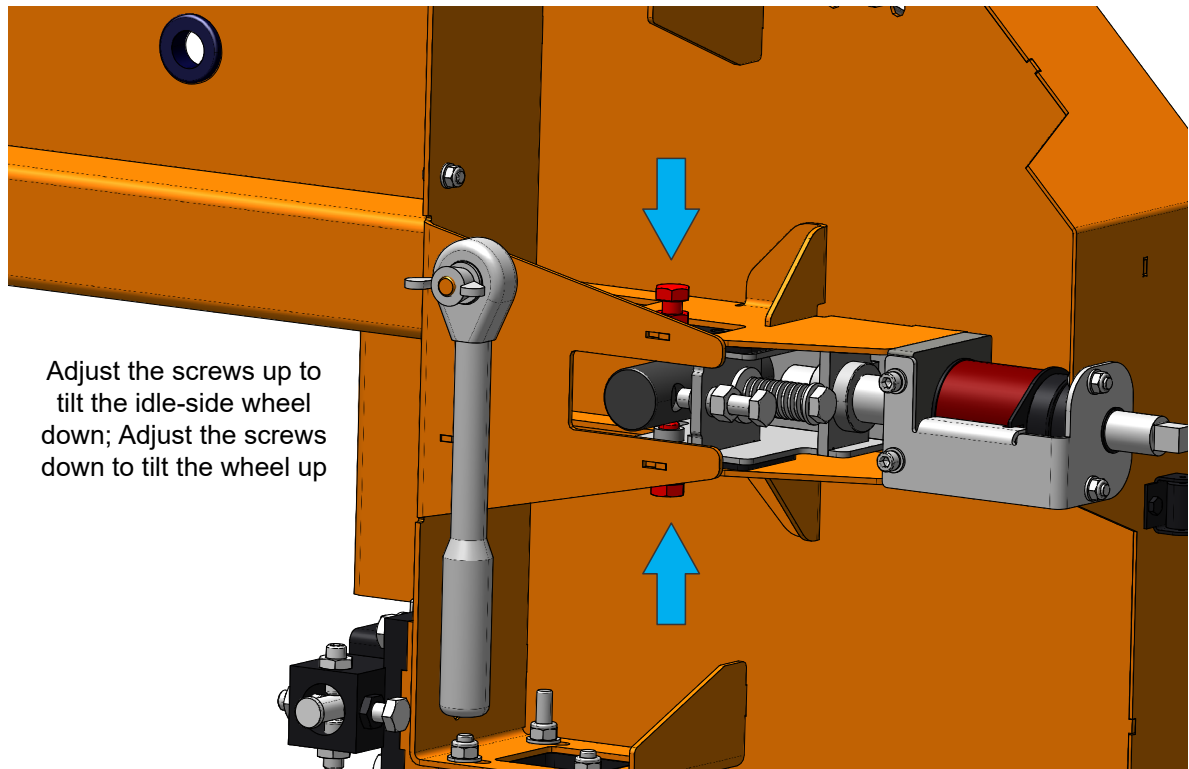

FIG. 3-8
**See figure 3-8.** To tilt the idle-side blade wheel up, loosen the lower nut and adjustment screw 1/2 turn, loosen the nut on the upper adjustment screw and tighten the upper screw. Then tighten the upper and lower nut.